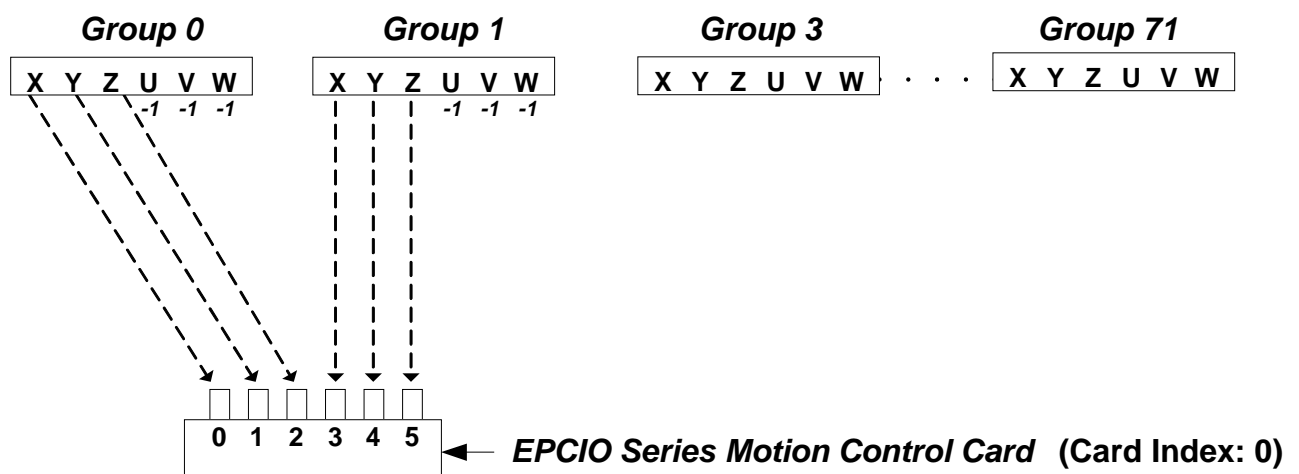

Fig. 2.4.5. Group parameter settings
For example, two groups and one EPCIO Series motion control card are being used in Fig. 2.4.5. The result of the trajectory planning for axes X, Y, and Z in Group(0) are from physical output channels 0, 1, and 2, respectively in Card 0; trajectory planning for axes U, V, and W is ignored. The result of the trajectory planning for axes X, Y, and Z in Group(1) are from physical output channels 3, 4, and 5, respectively in Card 0; trajectory planning for axes U, V, and W is ignored.